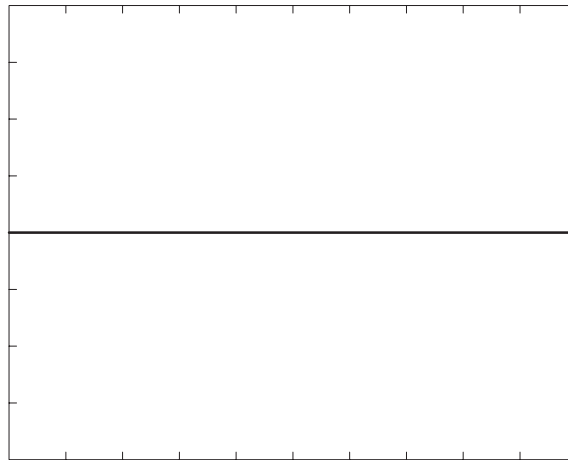

Figure 4–36: DC waveform output when the SW5 is closed
- a. Verify that the waveform being displayed on the oscilloscope is shown in Figure 4–35.
- c. Verify that the oscilloscope displays the DC waveform as shown in Figure 4–36.
- g. Verify that the oscilloscope displays the waveform as shown in Figure 4–35.